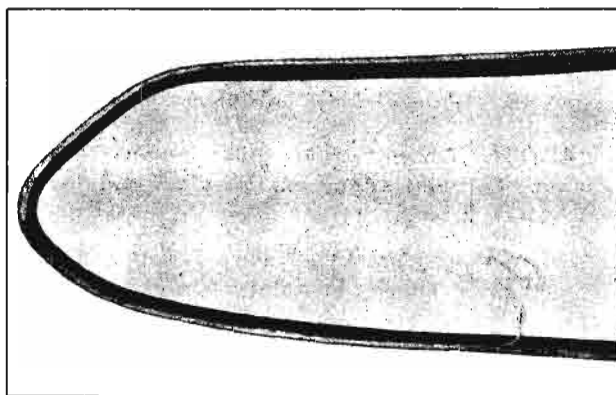

Fig. 10-21a—Cord in Pinchweld Cavity
- 2. Insert cord into pinchweld cavity of channel around the entire windshield. Tie cord loosely and tape ends to inside surface of glass. Knot should be on bottom of windshield when cord is tied (fig. 10-21a).